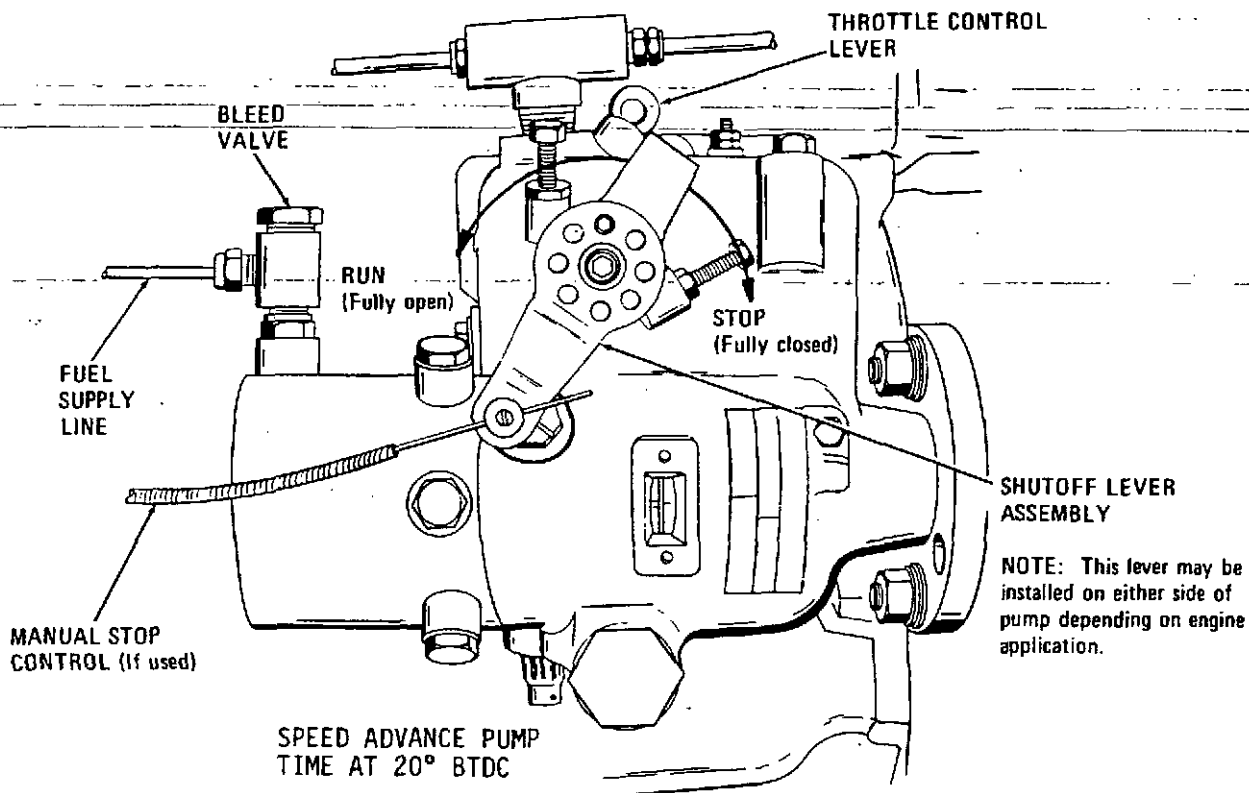

Figure 2-1. Fuel Injection Pump Installation
a. Place the manual stop control in STOP position so engine will not start. See figure 2-1.